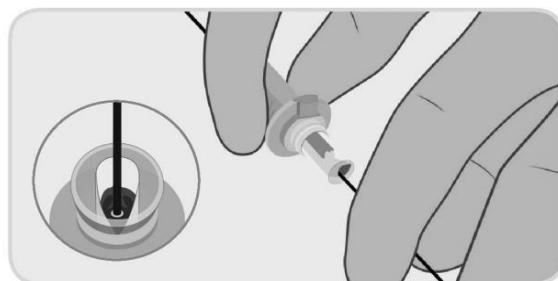

Figure 7. Loading guidewire into device cannula.
- a. Use non-heparinised saline to lubricate the guidewire during insertion. Insert the guidewire into the implant within the loading cannula, Figure 7 continue to insert the guidewire until it emerges from the rear of the PerQseal® closure device handle. Hold the PerQseal® Introducer-sheath at a low angle relative to the longitudinal axis of the artery (e.g. 20°) and keep the Introducer-sheath as straight as practical, to avoid kinking.
Note 2: Only grip the back portion of the Loading cannula during insertion as indicated in Figure 7.